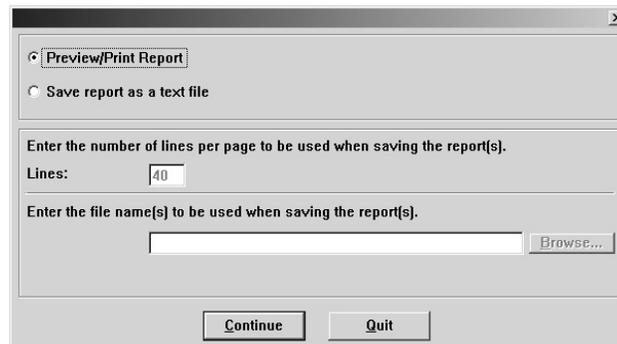

Figure 6-15. Choose Report or Text File
6. Click on **Report** if you wish to view all the courses pending CG Training Command approval. The Choose Report or Text File dialog box (Figure 6-15) opens.